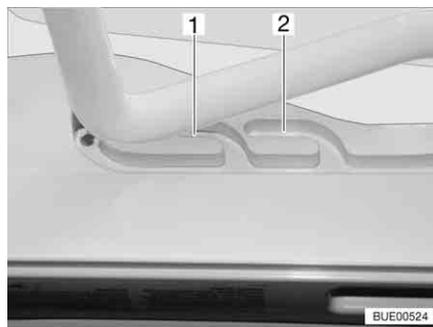
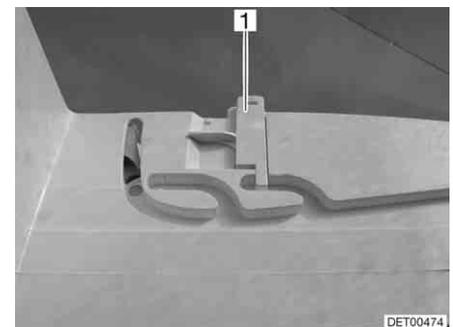

Fig. 60 Heki skylight in ventilation position
Fig. 61 Ventilation position locking mechanism
The Heki skylight can be put in two ventilation positions: Bad weather position (Fig. 60,1) and central position (Fig. 60,2). Depending on the model, the skylight can be locked in the central position with both left and right latches (Fig. 61,1) on the skylight frame.
- Push the bar slightly upwards and into the selected guide (Fig. 60,1 or 2) and lock if necessary.